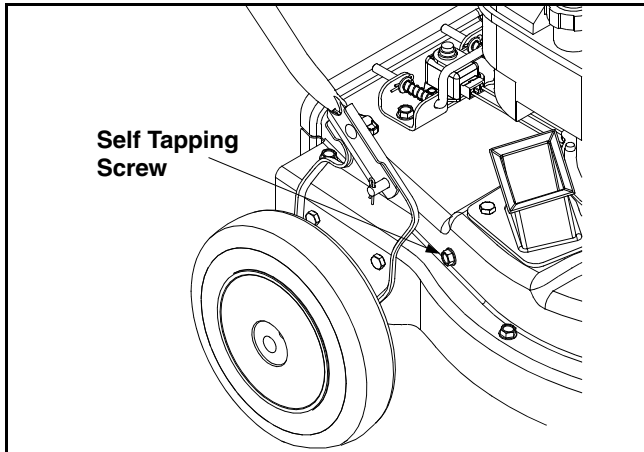

Figure 9
- Remove self-tapping screw on right side of unit that attaches to the flail screen. See Figure 9.